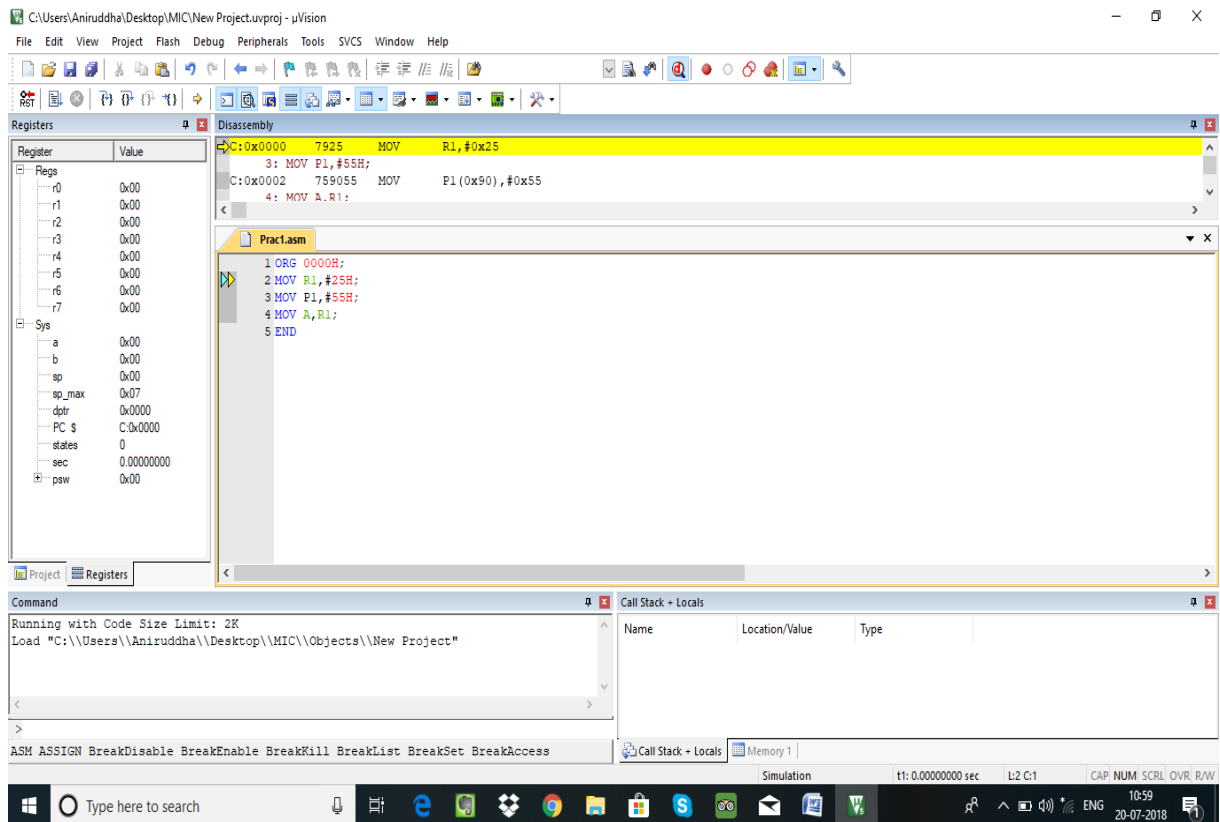

Figure.17
5. On start of debug session, project window will display all internal registers of 8051 and their contents. Fig 17